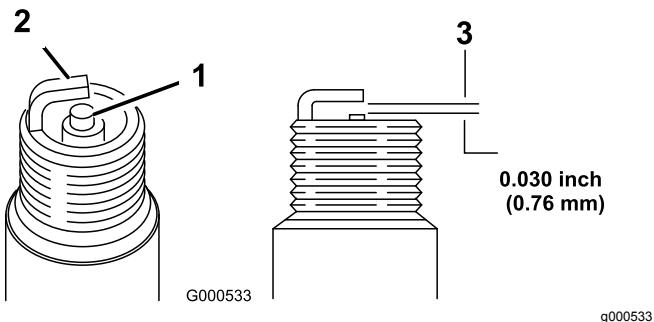

Figure 26
5. Set the gap on the plug to 0.76 mm (0.030 inch) as shown in Figure 26.